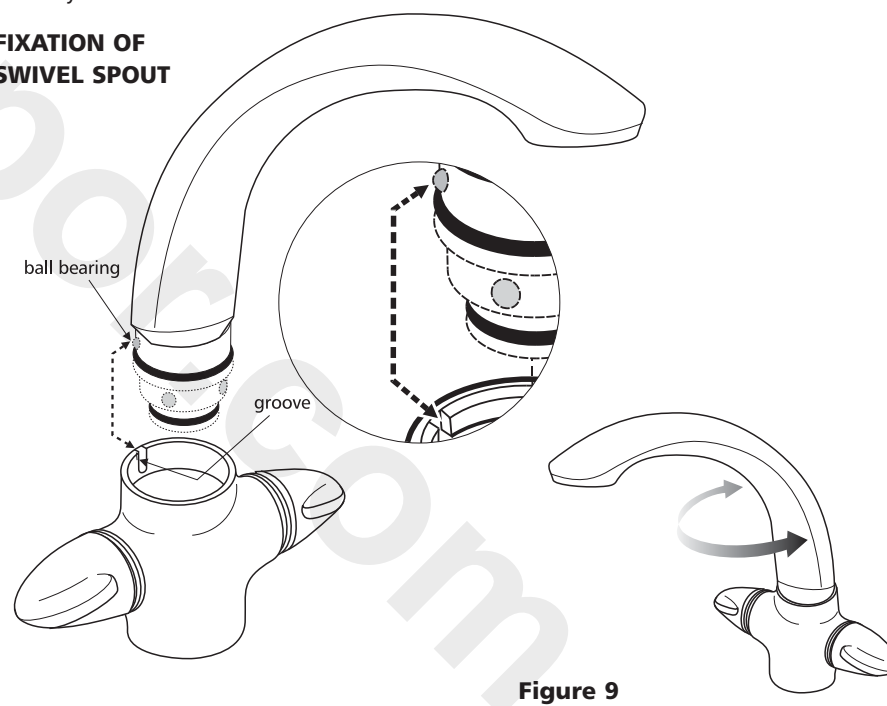

Figure 9
- Position the spout with the outlet nozzle facing the "10 o'clock" position so that the ball bearing engages with the groove in the body, (See Figure 9).
- Push the spout firmly into position and turn spout to the forward facing position, (See Figure 9).